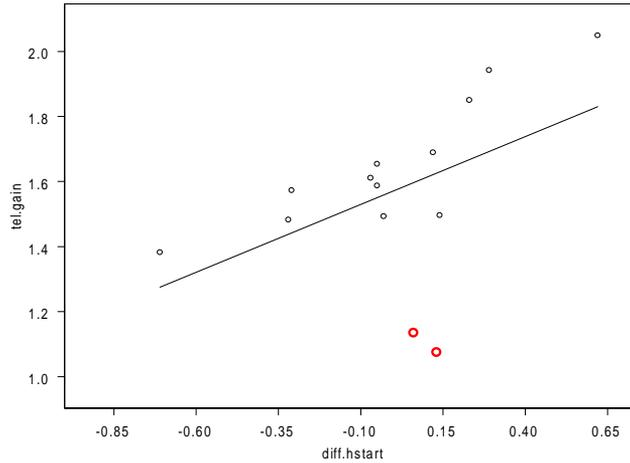

Figure 3.9: Scatter plot with least squares line, outlier points selected.
1. Make a scatter plot with a least squares line of `tel.gain` versus `diff.hstart` and select the two outliers as you did before (see Figure 3.9). Remember to change the cursor back